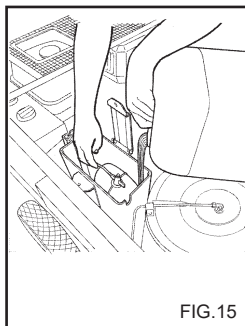

FIG. 15
**This chapter concerns only those models provided with the "pressure regulating" device.** The pressure regulator, fig. 15, allows the operator to adjust the working pressure. When knob C is turned in an anti-clockwise direction (B) (minimum), the working pressure is reduced.
- 5) Pour about 3 litres of antifreeze into the water tank (fig. 15).